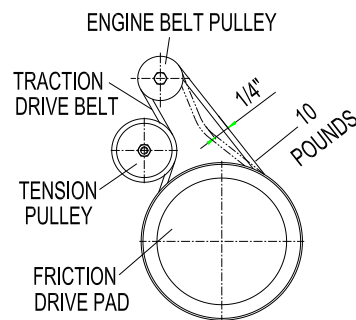

FIG 15
6.10.1 Adjust the belt with 10 pounds of pressure. If the belt moves 1/4", it is all right. If not, you should adjust the belt. (FIG 15)